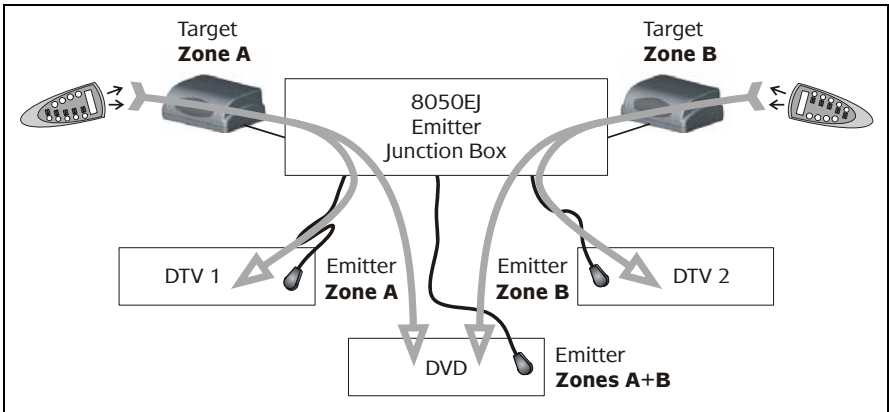
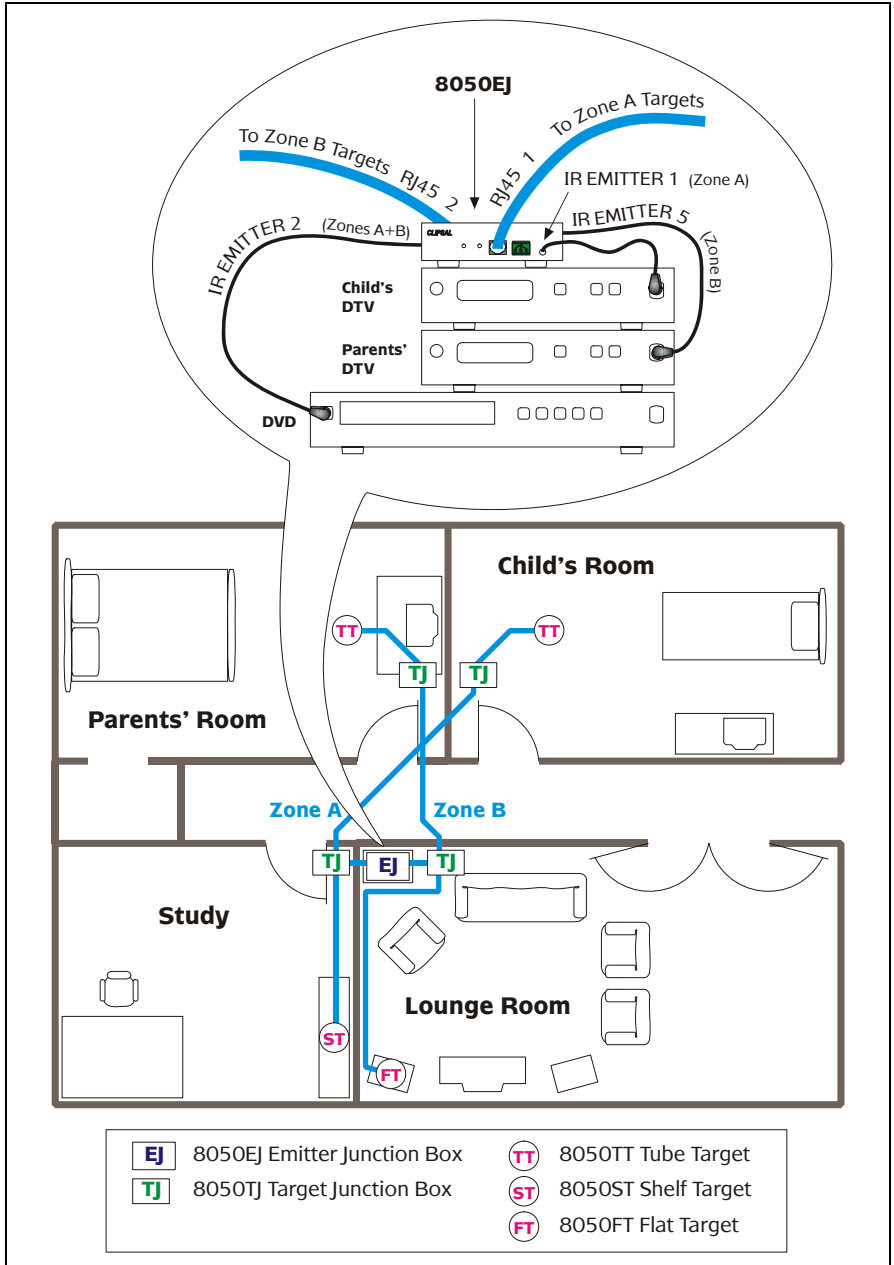

Figure 3 – The IR Distribution System supports multiple zones
Figure 4 - Example of a home installation
This allows different appliances to be controlled from specific rooms, such as one set top box from a child's room and another from the adults'. Appliances whose IR Emitters are connected to both zones, (the Zone A+B connections on the 8050EJ Emitter Junction Box), can be controlled from any IR Target. The diagram in Figure 3 illustrates how zones work. The examples in Figures 4 and 5 show how multiple zones may be utilised.
In the home installation in Figure 4, separate Digital Television (DTV) units are provided for the parents and child. The child's DTV can be controlled from the child's room (via an IR Tube Target) and the study (via an IR Shelf Target (ST)). The parents' DTV can be controlled from the parents' room (via an IR Tube Target) and the lounge (via an IR Flat Target (FT)). Since the IR Emitter linked to the DVD is connected to Zones A+B, the DVD can be controlled from any room (either Zone).